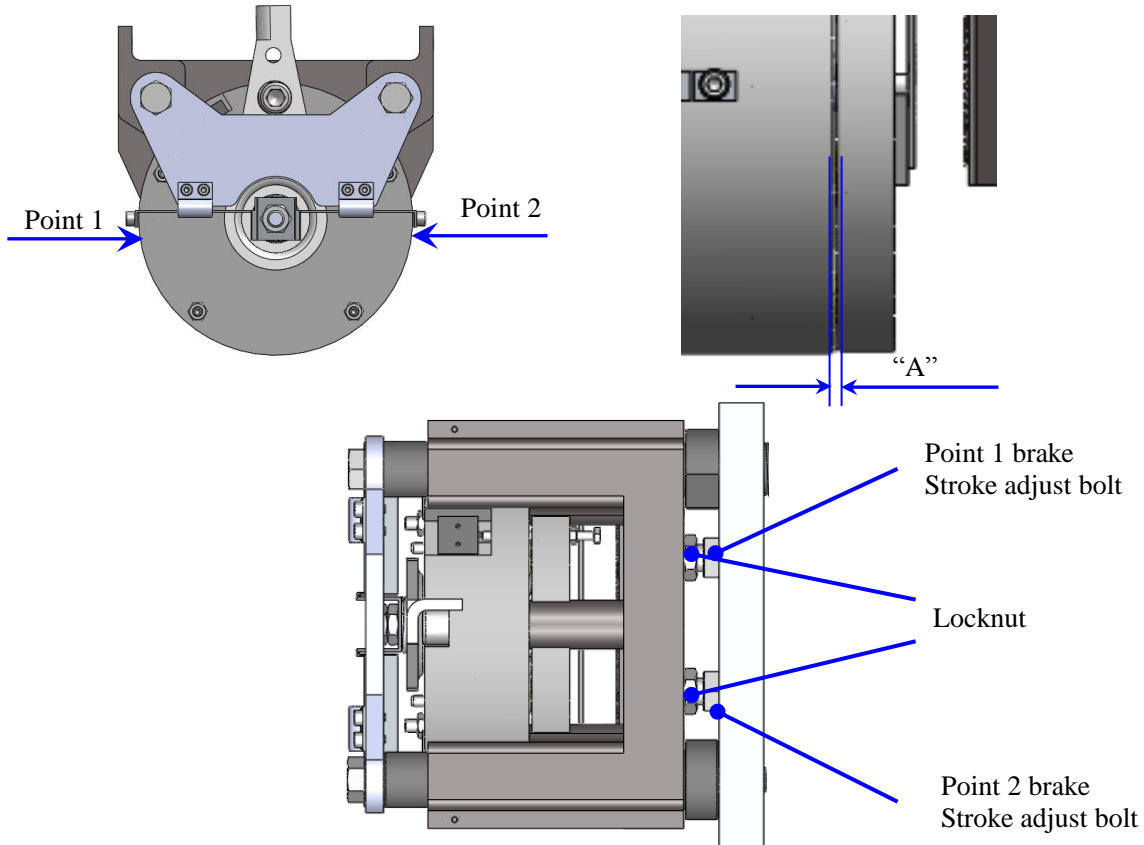

Figure 5: Brake Stroke Adjustment
2. Check the gap “A” (brake stroke) at point 1 and 2, with feeler gauge. Maximum Gap “A” after wear should be $< 0.4\text{mm}$ (0.016”) for PZD140MA1; 0.45mm (0.018”) for PZD140MB1, otherwise the gap must be readjusted. See Figure 5.